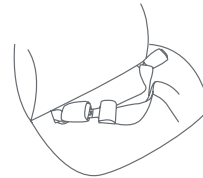

Fig. 41-2
- Buckle the seat belt being careful that the seat belt is not twisted and is securely latched into the appropriate buckle, and not the adjacent buckle (Fig. 41-2).